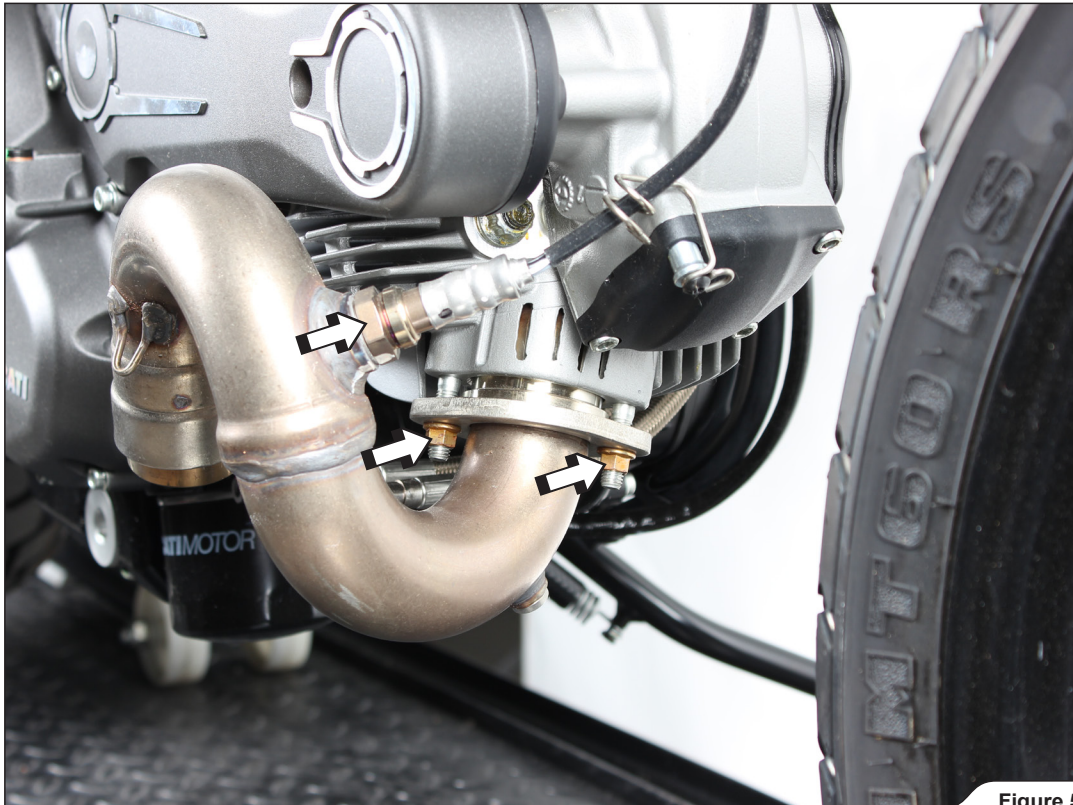

Figure 5
7. Unscrew the marked lambda sensor and flange nuts; carefully remove the front header pipe off the motorcycle (Figure 5).